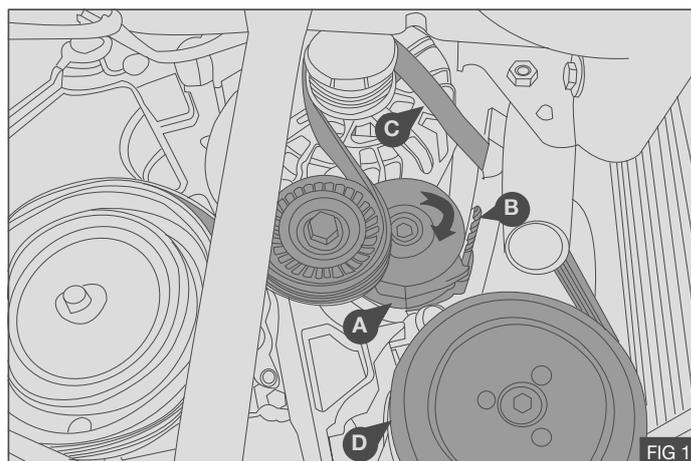
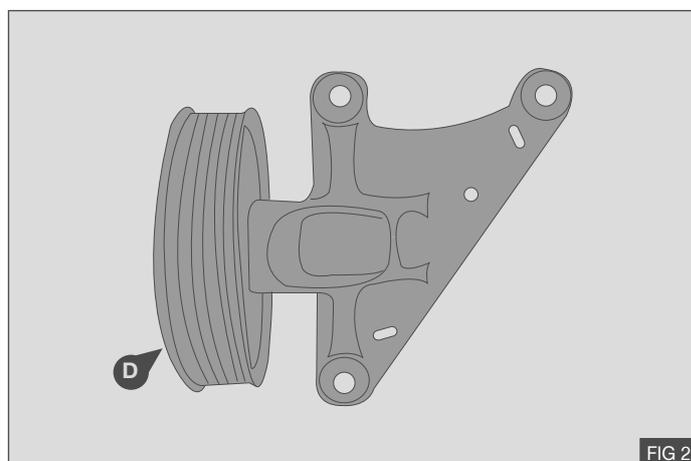

FIG 1
FIG 2
1. Using a suitable tool rotate the automatic belt tensioner pulley (A) clockwise and insert a suitable 4mm pin, an Allen key is ideal for this purpose (B) - Fig.1
2. Remove and discard the original manufacturers poly groove drive belt (C).
3. Remove and discard the original vehicle manufacturers mounting bracket assembly (D) that supports the idle pulley when the vehicle is not fitted with air conditioning, discard the 3 bolts (E) - Fig.2